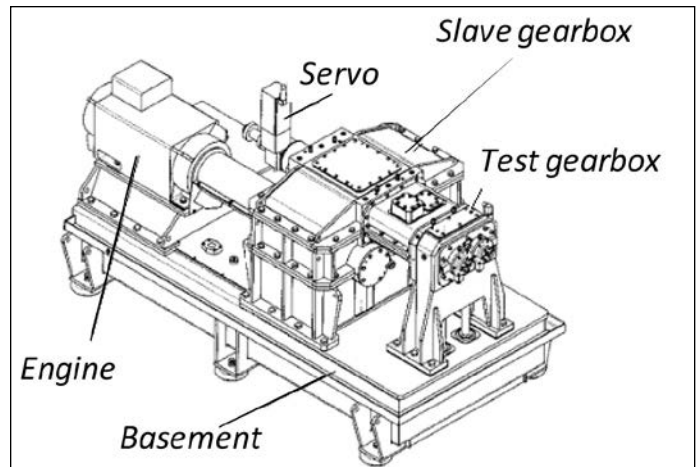

Figure 3 Test rig.
**Gear rig.** The experiments were carried out using a back-to-back test rig specifically designed for aerospace gear testing (Refs. 3 and 4), shown in Figure 3.